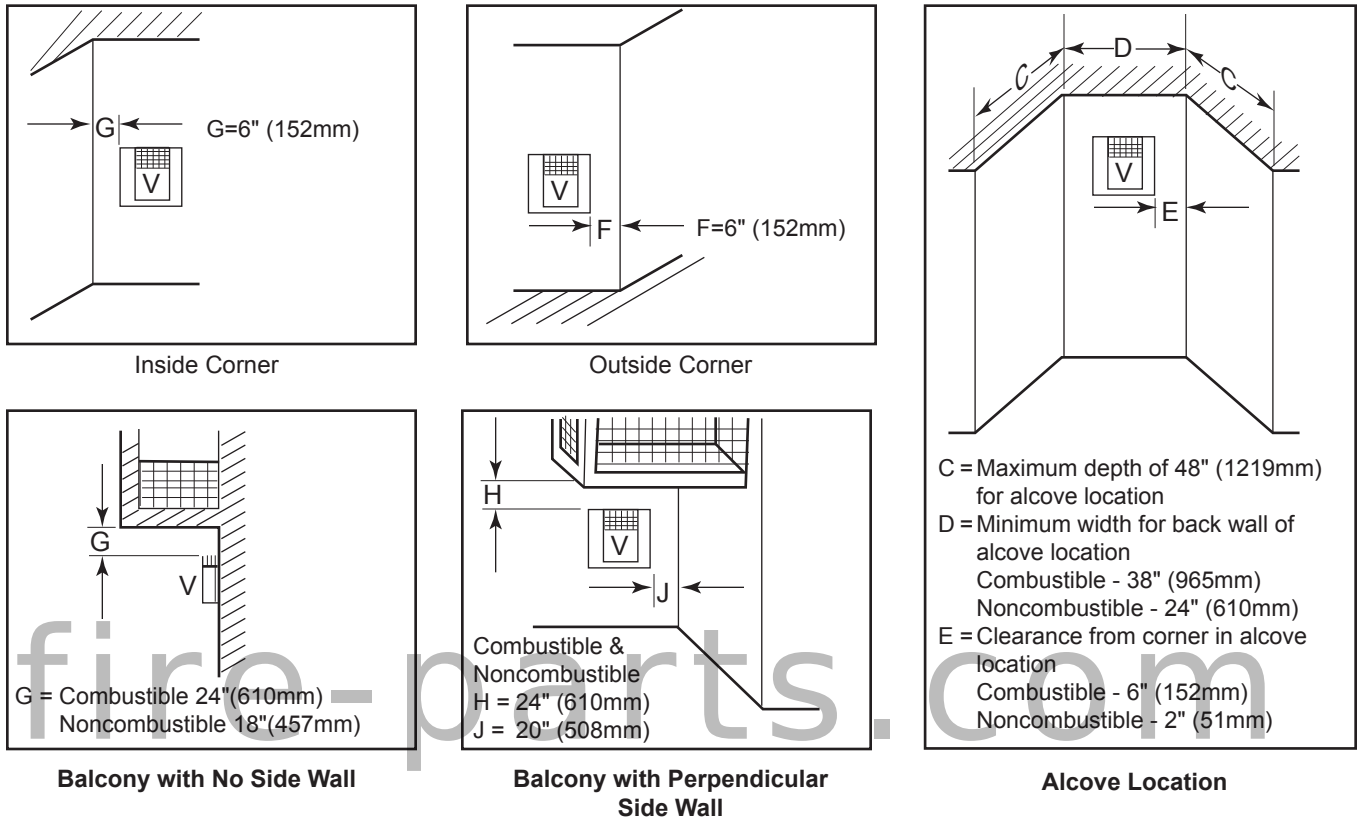

Figure 12 - Allowable Venting Chart
- D = Vertical clearance to ventilated soffit located above the terminal within a horizontal distance of two (2) feet (610mm) from the centerline of the terminal [18" (457mm) minimum].
- F = Clearance to an outside corner. *Figure 12*
- G = Clearance to an inside corner. *Figure 12*
- H = *Not to be installed above a gas meter/regulator assembly within three (3) feet (914mm) horizontally from the centerline of the regulator.
- M = Clearance under veranda, porch, deck or balcony, refer to *Figure 12*.